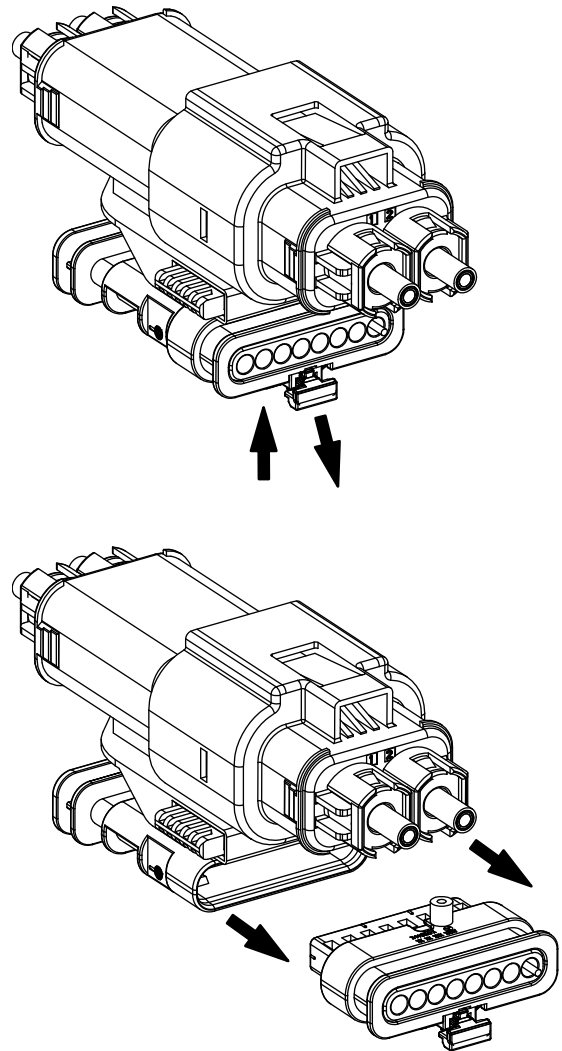

Figure 29
1. Disengage the low voltage connector CPA. While depressing the latch on the low voltage plug connector, pull the low voltage plug connector until it is completely unmated from the low voltage cap connector. See Figure 29. If the low voltage connectors cannot be easily unmated, ensure that the plug connector CPA has been completely disengaged, and that the plug connector latch has been completely depressed.